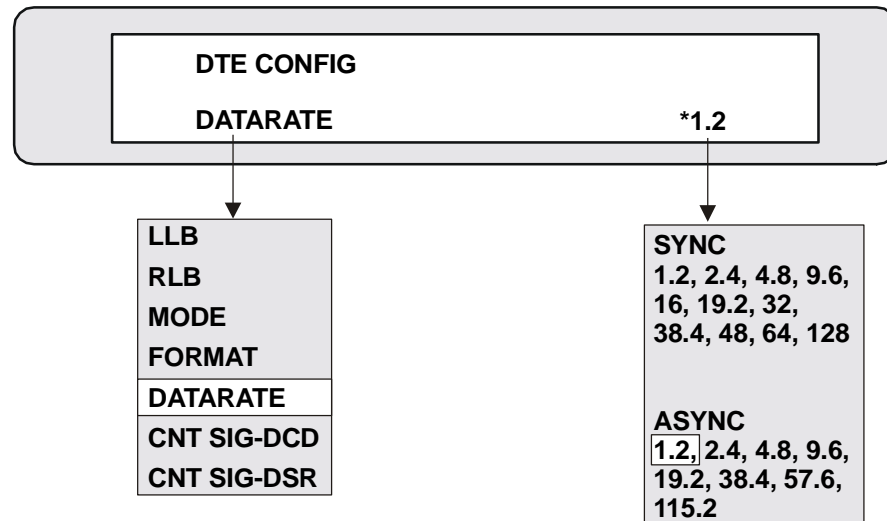

Figure 4-7. Selecting Data Rate
4. Press the SCROLL button until DATARATE is displayed (see Figure 4-7).